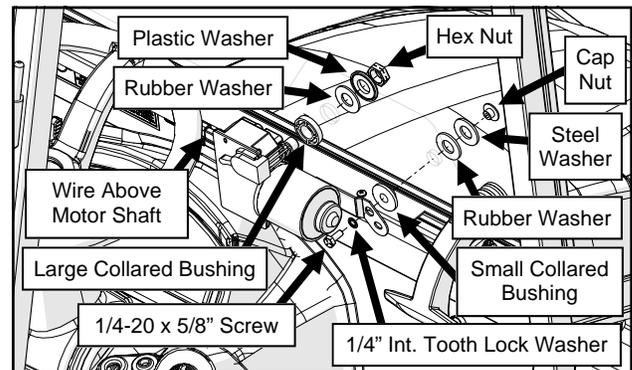

Fig. 14.1 (Windshield Wiper Motor)
14.1 Mount the wiper motor to the windshield. See Figure 14.1. Make sure the wires are above the wiper motor shaft to prevent pinching the wires when the windshield is opened and closed.